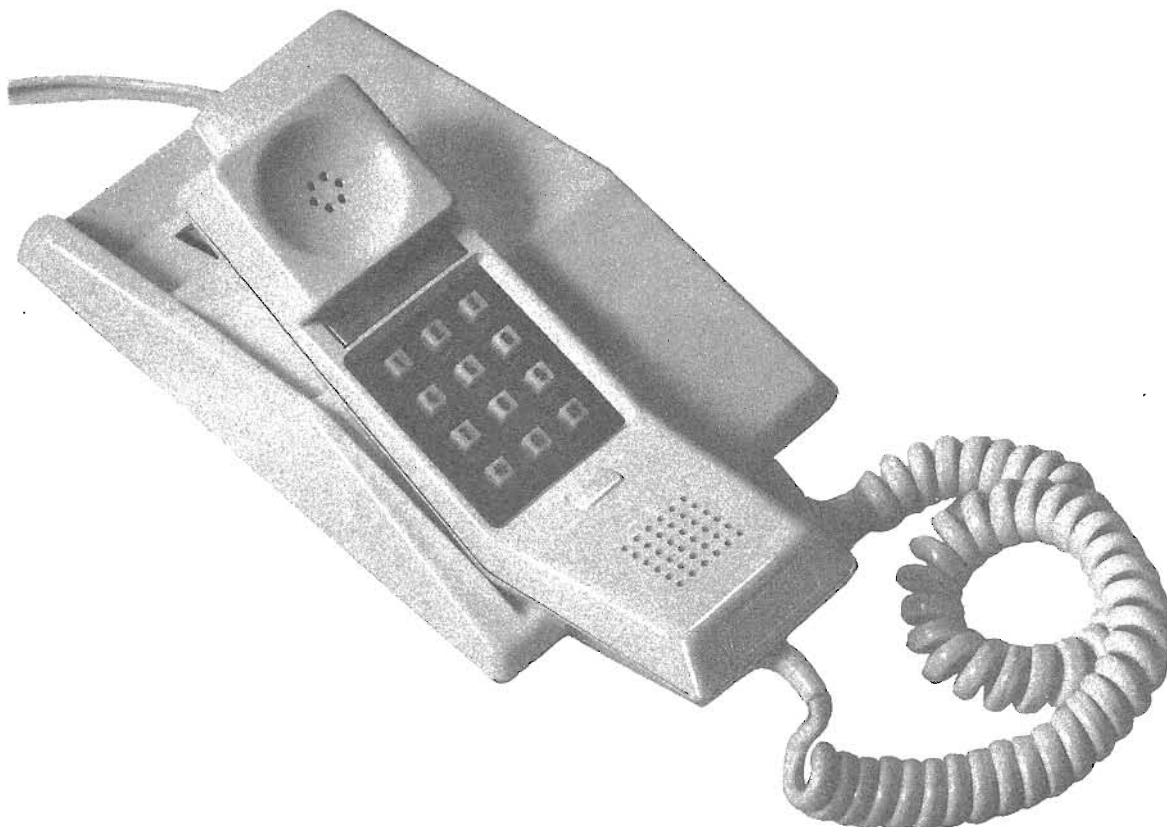

Fig. 1A — Desk Mounted QSK2100AX "Off-Hook" Position
**2.04** The QSK2100AX Touch-Tone version is shown in Fig. 1A.